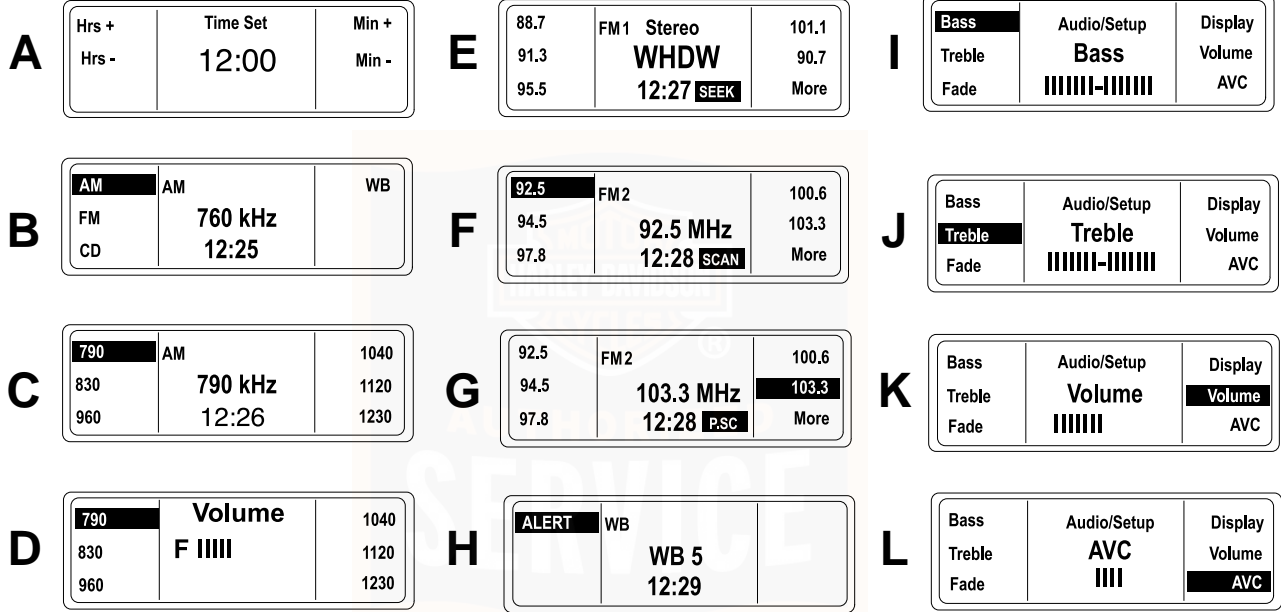

Figure 27. FLHX, FLHTC and FLTR LCD Display Examples
See A in Figure 27. To increase the hours in the display press the Hrs+ soft key. To decrease hours press the Hrs- soft key. When the hour is correct, release the soft key.
See B in Figure 27. The LCD highlights the selected band.
See D in Figure 27. At any time the receiver is playing, the volume can be adjusted by pressing the **AUDIO** switch up (+) to increase volume or down (-) to decrease volume.
See E in Figure 27. Normally, the Advanced Audio System plays FM signals in stereo. The LCD will indicate **STEREO**.
See H in Figure 27. Broadcast by the National Oceanic and Atmospheric Administration (NOAA) National Weather Band (WB) frequencies are available in North America only.
See E in Figure 27. In SEEK, the radio tunes in to the next strong station.
See F in Figure 27. Press and hold the **MODE SEL** switch **UP** or **DN** approximately 5 seconds to scan the band for strong station signals. Each strong station remains tuned in for 8 seconds before the radio scans to the next station. The receiver will continue to scan until cancelled.
See C in Figure 27. AM can store 6 preset frequencies.
See E and F in Figure 27. Separate FM1 and FM2 bands allow the rider to store 2 sets of 5 preset FM frequencies (10 total). Use the **More** soft key to toggle between FM1 and FM2. The full range of FM frequencies can be selected in either FM1 or FM2.
See G in Figure 27. In preset SCAN, the radio continuously tunes from one preset station to the next until the preset SCAN is cancelled. A P.SC icon will display while preset SCAN is active.
See D in Figure 27. Volume is adjusted with the **AUDIO** switch on the left hand grip. Using left thumb, press the **AUDIO** switch up (+) to raise the volume or down (-) to lower the volume. The
See K in Figure 27 Volume can also be adjusted in Audio/Setup.
BASS: See I in Figure 27. Press **AUDIO** to display Bass Audio/Setup. Using the left thumb, press the **AUDIO** switch up (+) to increase the bass range or down (-) to lower the bass range. The LCD displays the word Bass and a dashed line that changes length with the setting. The short center dash indicates a middle setting.
TREBLE: See J in Figure 27. From Bass Audio/Setup, press and release **AUDIO** to sequence to Treble. Using the left thumb, press the **AUDIO** switch up (+) to increase the treble range or down (-) to lower the treble range.
See J in Figure 27. The LCD displays the word Treble and a bar graph that changes length with the setting. The short center dash indicates a middle setting.
See L in Figure 27. Automatic Volume Control (AVC) automatically adjusts volume level to compensate for ambient noise associated with motorcycle speed.